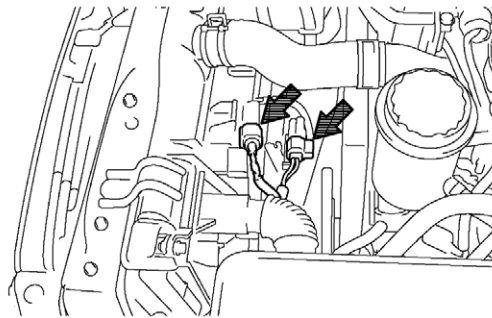

Figure 6. Disconnect the 2 Connectors for the Electric Fans
1. Disconnect the 2 connectors for the electric fans (see Figure 6).
4. Reconnect the 2 electric fan connectors disconnected in step 1 (Figure 6).